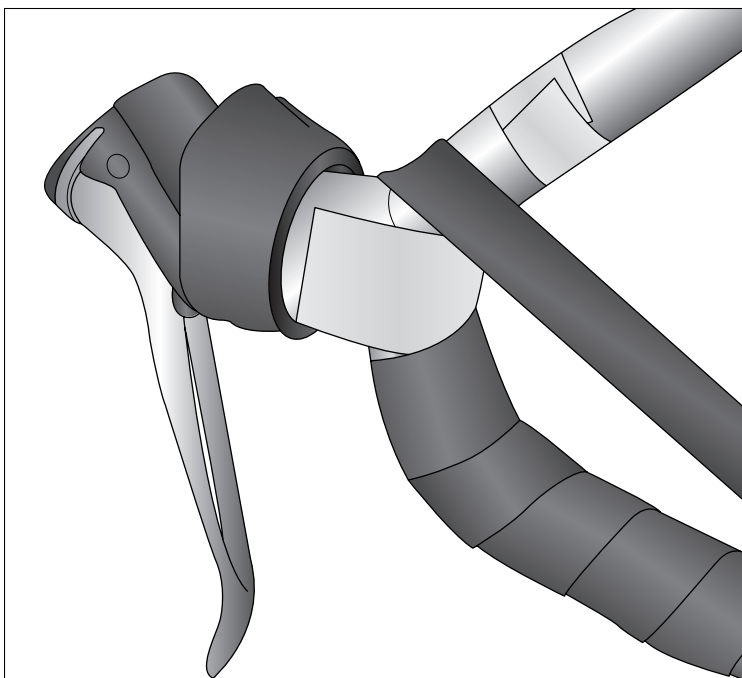

Figure 15-6:
5. **Pull the tape downward and away from the shifters (see Figure 15-6).**